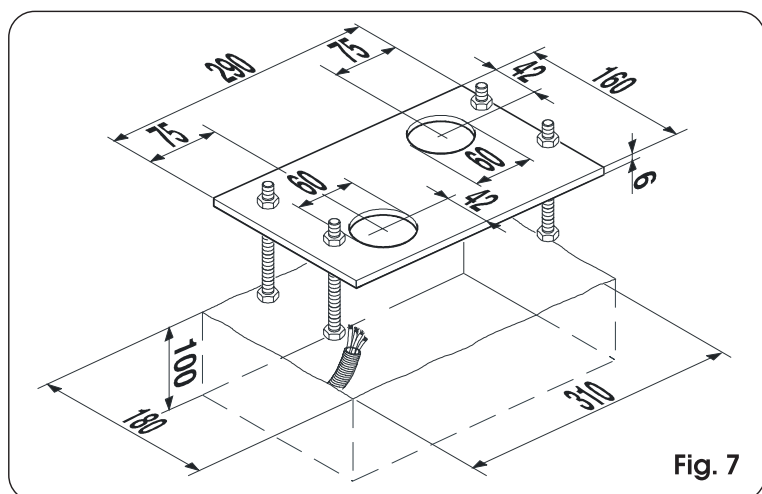

Fig. 7
- 3) Make a foundation plinth as shown in Fig. 7 and weld the foundation plate, providing one or more sheaths for routing the electric cables. Using a spirit level, check if the plinth is perfectly level. Wait for the cement to set.